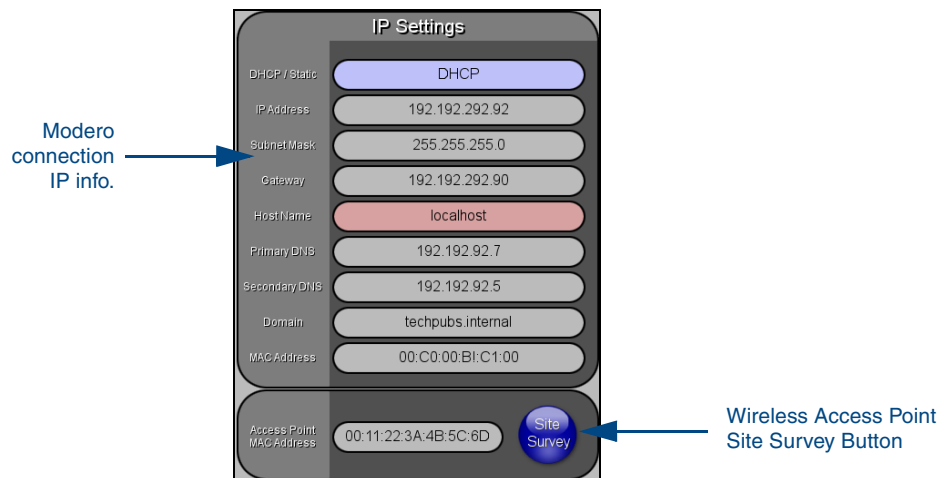

FIG. 35 Wireless Settings page (IP Settings section)
1. Select **Wireless Settings**. Wireless communication is set within the IP Settings section of this page (FIG. 35).
1. Press the **Wireless Settings** button (located on the lower-left) to open the *Wireless Settings* page. Wireless communication is set within the *IP Settings* section of this page (FIG. 35).